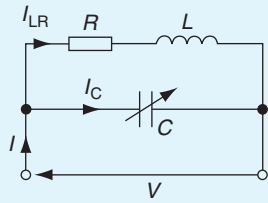

Figure 16.13
6. A parallel circuit as shown in Fig. 16.13 is tuned to resonance by varying capacitance C . Resistance, $R = 30 \Omega$, inductance, $L = 400 \mu\text{H}$ and the supply voltage, $V = 200 \text{ V}$, 5 MHz .